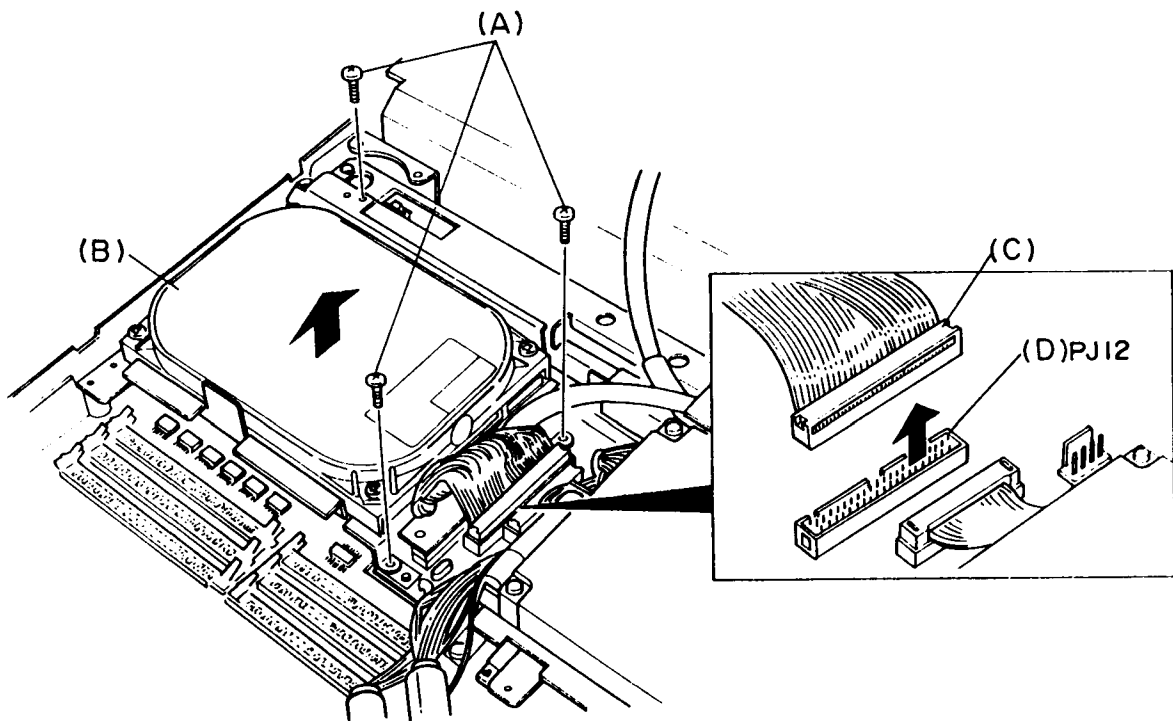
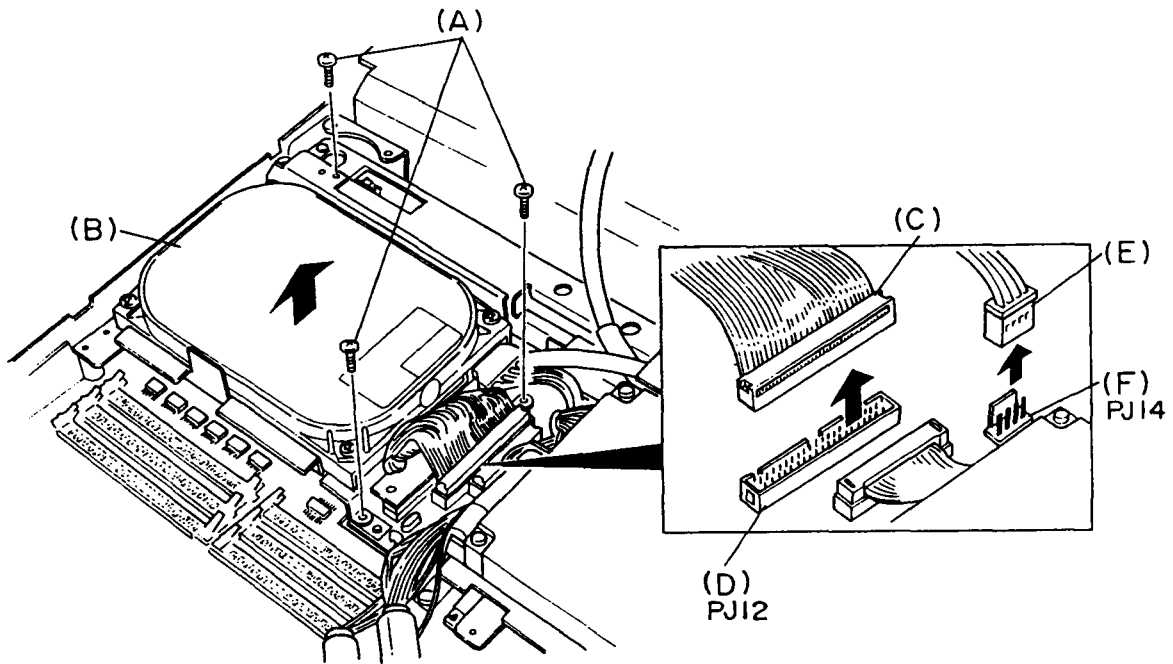

Figure 4-14 Removing the HDD unit (for JVC)
Figure 4-15 Removing the HDD unit (for Conner)
**CAUTION:** The HDD of T3200SX has two types. One type is made by JVC Co. and another type is made by Conner Co. If your HDD is made by JVC Co., there is no HDD power supply cable. Refer to figure 4-14.
2. Remove the three screws (A) fixing the HDD unit (B), then disconnect the HDD signal cable (C) from the PJ12 (D) on the system board.
3. Remove the HDD power supply cable (E) from PJ14 (F) on the system board (for Conner). The removing method is shown in Figure 4-15.